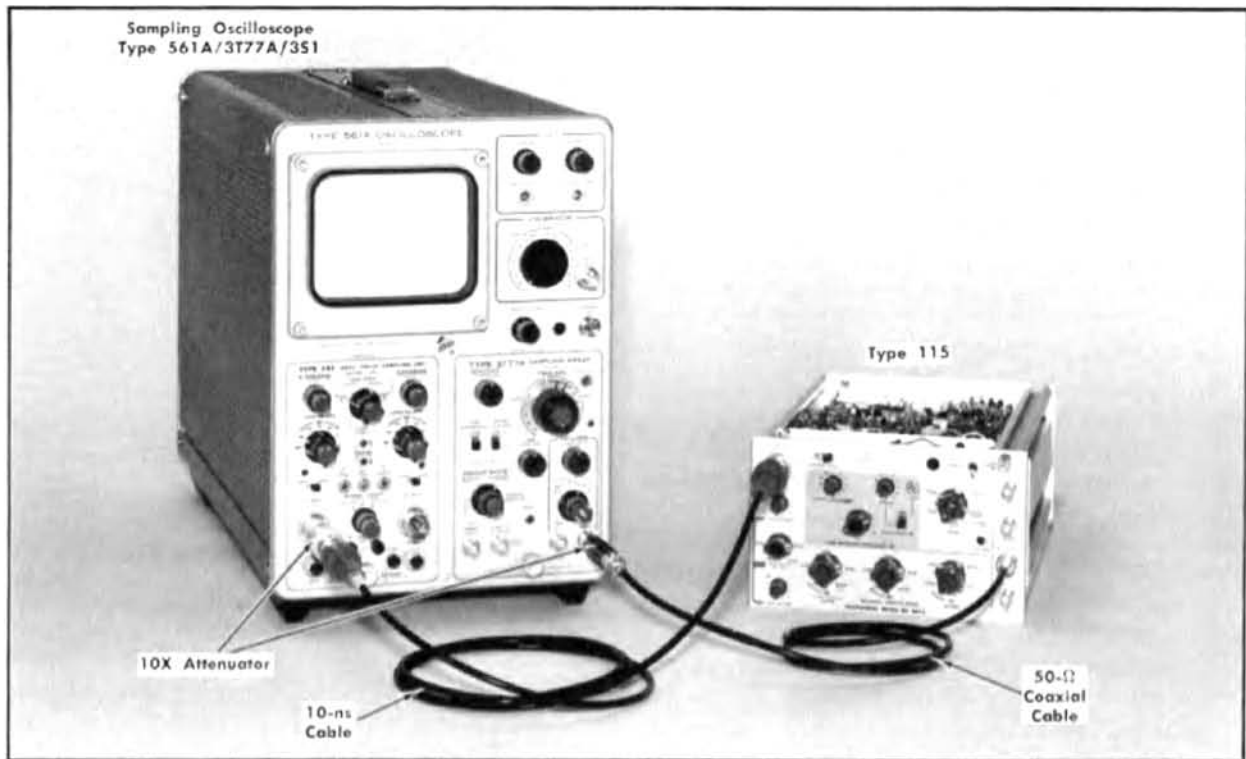

Fig. 5-14. Initial test equipment setup for steps 17 through 20.
- a. Test equipment setup is shown in Fig. 5-14.